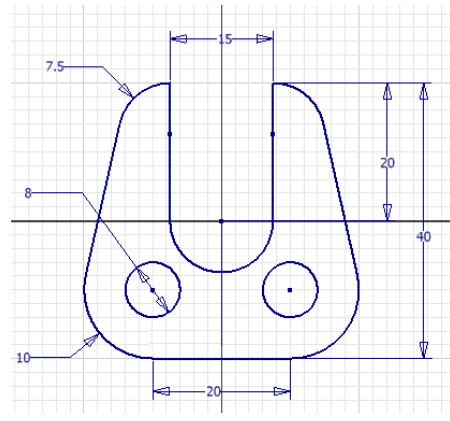

Figure 3-62 The final dimensioned sketch for Tutorial 3
- Draw inner circles and add constraints and dimensions to them, refer to Figure 3-62.
Notice that because of the Equal constraint, the size of the right circle is automatically modified to match the dimension of the left circle. The final sketch for Tutorial 3 after drawing and dimensioning circles is shown in Figure 3-62.